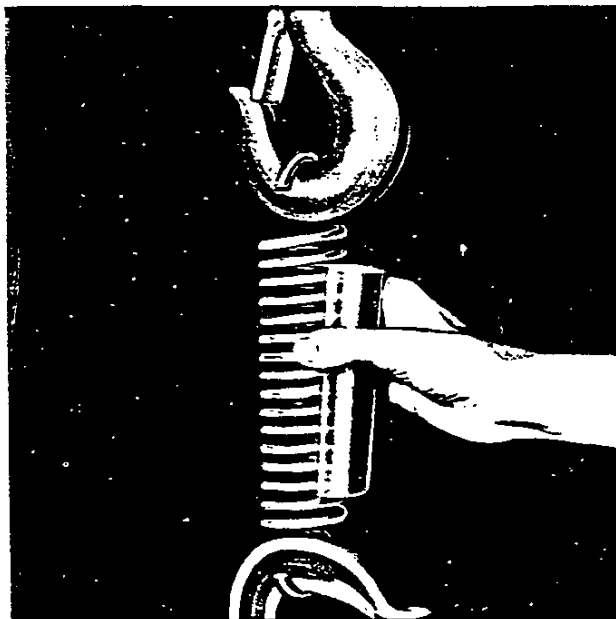

Fig. 43—Installing Tool J-9559 in New Spring
2. Hook one end of spring in clamp and the other end in hook of chain hoist, or "cheery picker", as shown in Figure 43.